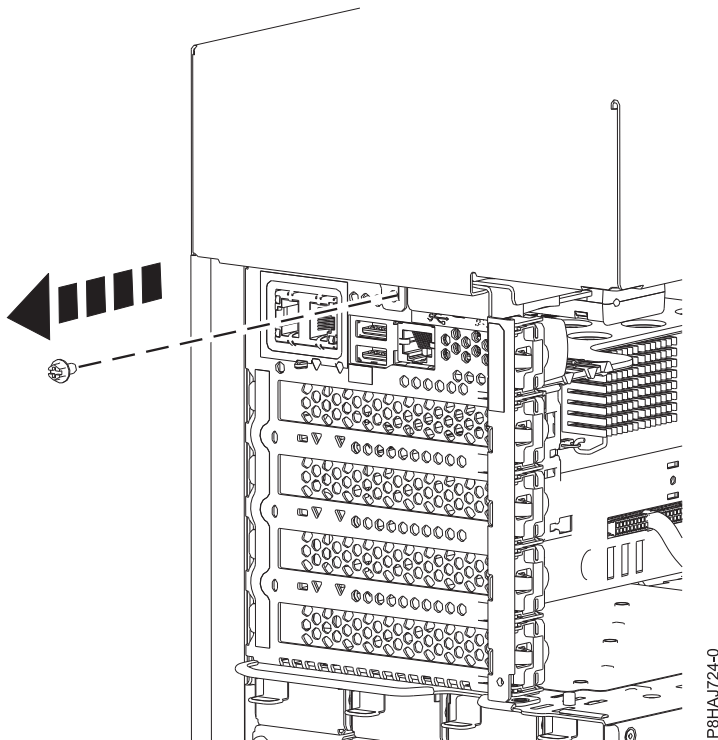

Figure 25. Removing the screw from the 8286-41A side cover
4. Remove the rear screw from the side cover by using a Phillips screwdriver as shown in Figure 25.